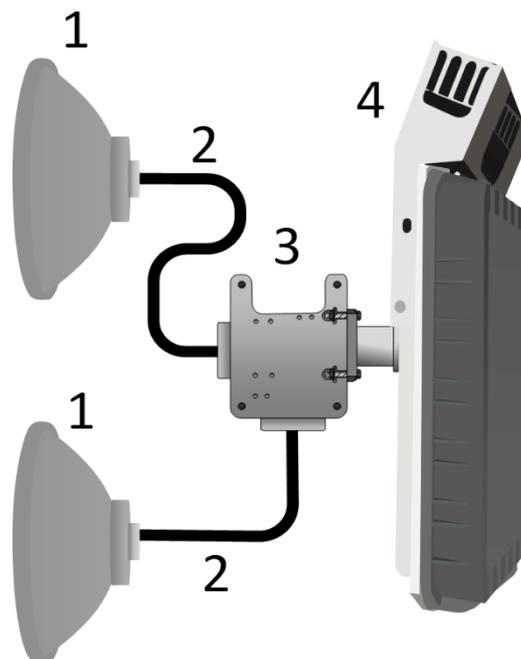

Figure 6-6 1+1 SD connection diagram 6-13 GHz
1+1 SD scheme includes antennas (1), waveguides (2), a tower mountable OMT (3), and a single FODU (4). 1+1 SD connection diagram is shown in *Figure 6-6* below.